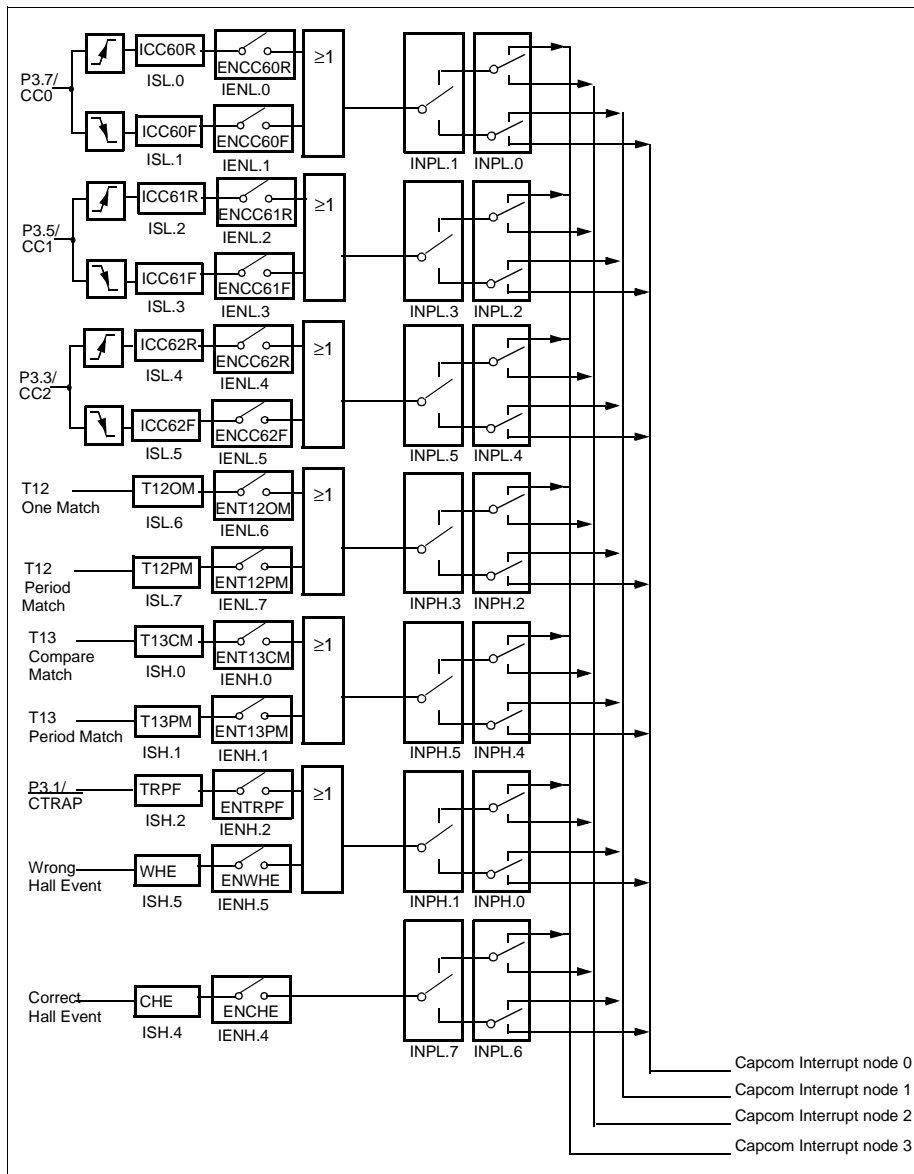

Figure 23 Capture/Compare module interrupt structure
**Figure 23** to **Figure 28** give a general overview of the interrupt sources and illustrate the request and control flags.